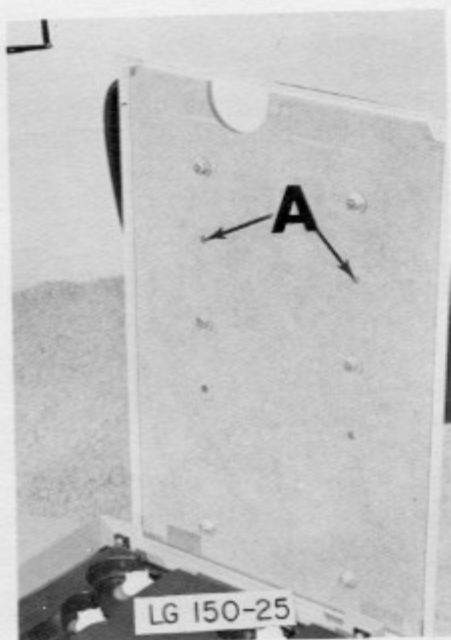

Figure 28
Fig. 28 - Holes at spacing "A" in seat mounting are for your convenience. Position seat as desired, place plastic washer between seat and seat mounting and secure using four (4) 5/16 x 1" machine bolts and flatwashers.